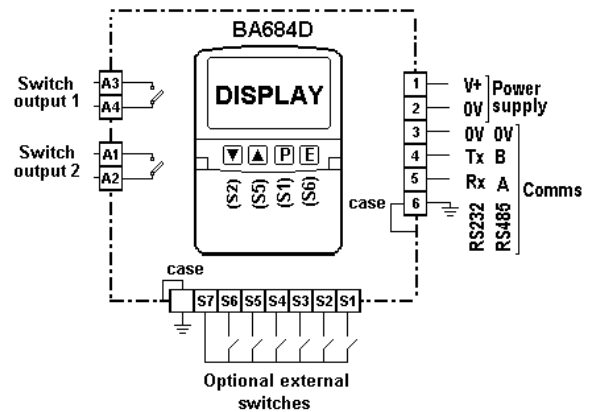
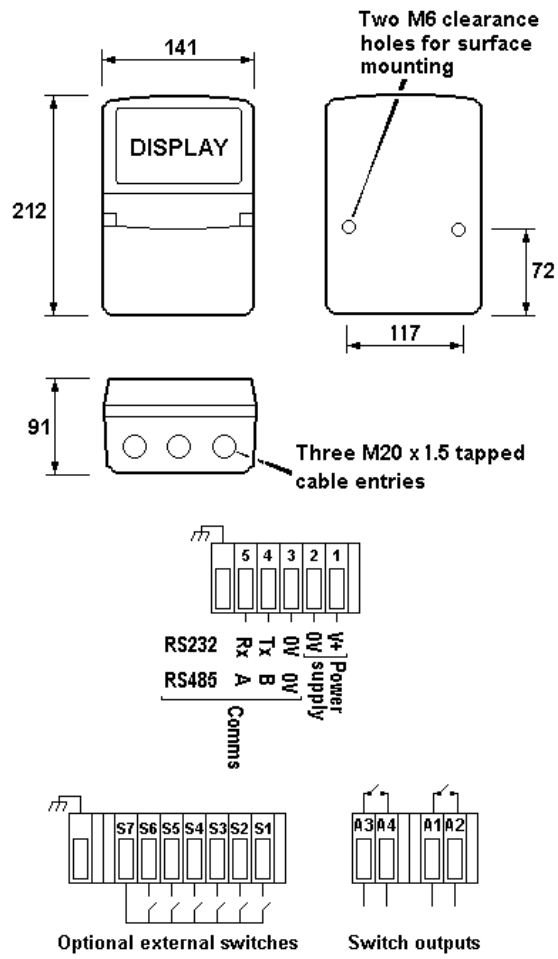

Fig 1 Simplified block diagram of BA684D
Fig 4 Dimensions and terminal connections
Fig 1 shows a simplified block diagram of a BA684D serial text display. Two versions are available, one has an RS232 port and the other an RS485 port. The type of port is shown on the label fixed to the inside of the terminal cover. The two switch outputs may be controlled and the operator switches interrogated via the serial communication link.
Figure 1 shows a functional block diagram of BA684D serial text display. Terminal locations are shown in Fig 4.
- d. Connect the field wiring to the terminals as shown in Fig 4.